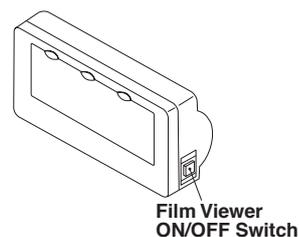

Fig.3-19 Dental Size Film Viewer
(8) Dental Size Film Viewer (Fig.3-19)